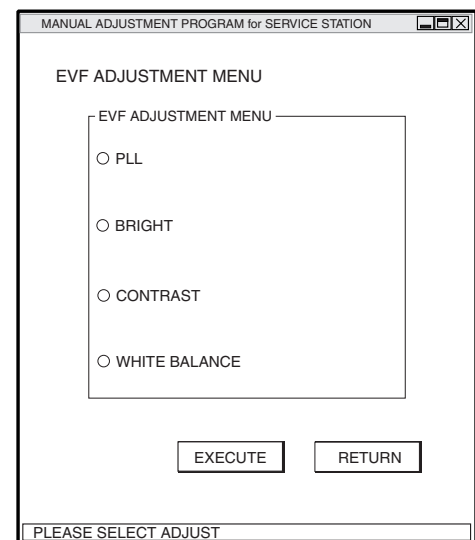

Fig. 6-4-12 Viewfinder Screen
- 4) When the DVD video camera/recorder has shifted to the test mode, the viewfinder screen will be black and white (see Fig. 6-4-12), and the EVF ADJUSTMENT MENU will appear on the PC monitor screen.